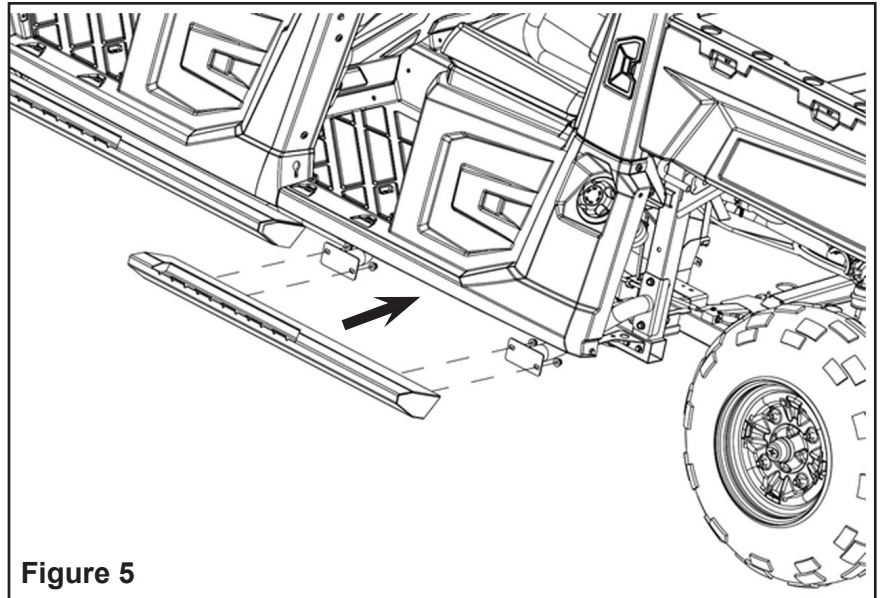

Figure 5
5. Align the rear NERF bar (PN 1019376 LH; 1019737 RH) on both left and right hand sides to the brackets and loosely assemble fasteners. Figure 5.